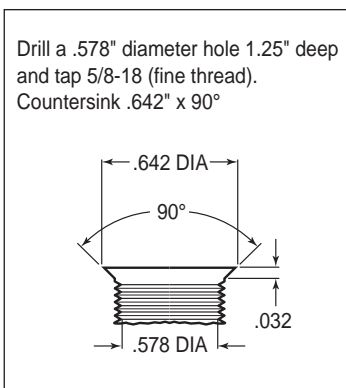

Figure 3. Drill and Tap Detail
•**NOTE:** Some spindles in this year range may require the following modifications (reference Figure 1 and Figure 3): Top anchor pin hole (Z) must be drilled and tapped to the dimensions as outlined in Figure 3. The lower bolt hole (Y) in the spindle used to mount the new caliper bracket, and the mating steering arm hole, must be enlarged to .50" by drilling. It is recommended these modifications be performed by a qualified machinist.
•Pack the large inner bearing cone (7) with high temperature disc brake bearing grease (available from your local auto parts store) and install into the backside of the hub (9), Photo 1.
•Install the grease seal (8) by pressing into the backside of the hub (9), flush with the end of the hub.